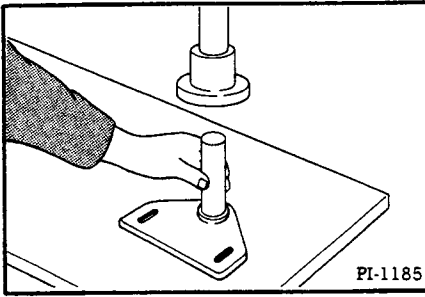

Fig. 90 Pressing in New Mounting Pin
5. If a new mounting pin is required, press the old mounting pin from the inside mounting plate and press a new mounting pin into place (Figure 90).